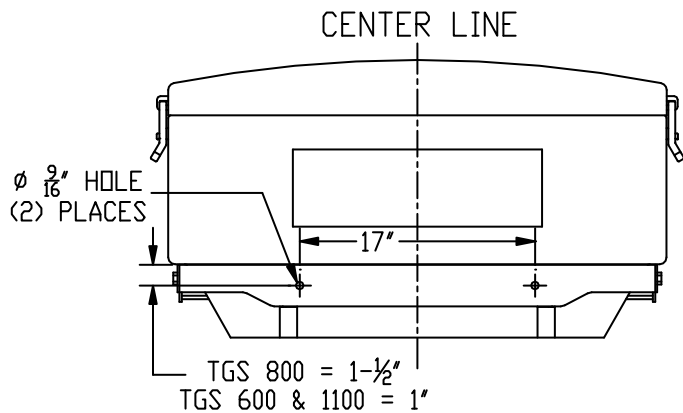

Figure 2. Hole Placement
3. Drill two 9/16" holes in front face of Spreader Frame as shown in Figure 2.